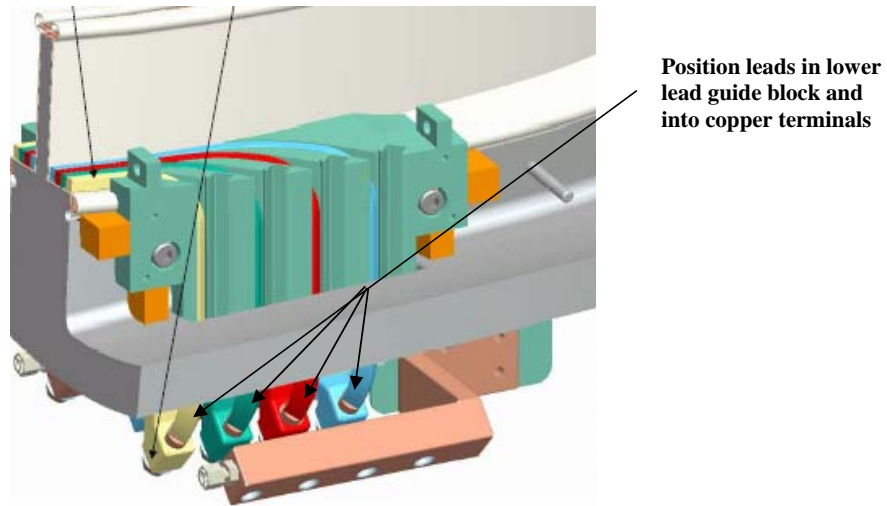

Figure 17- Positioning leads
- 6.15.2 Position the first layer of (4) conductors into the conductor slots in the lower lead guide block. The conductors shall be placed in alternating slots. Care must be taken during this operation, to minimize any damage to the over wrap insulation. Secure connectors in-place but do not torque at this time. [Figure 17- Positioning leads]